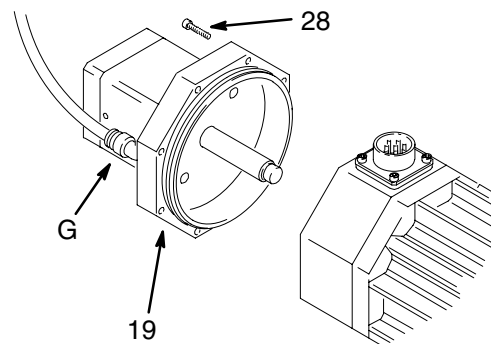
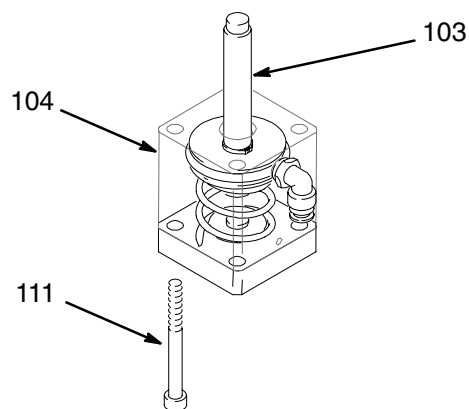
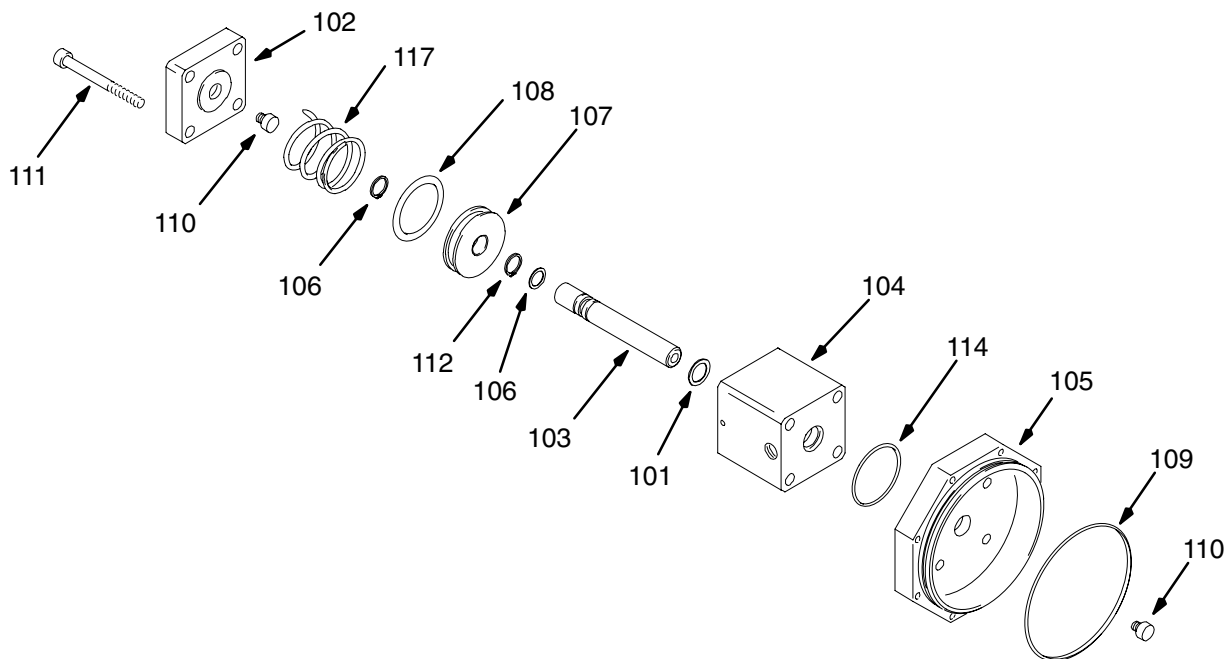

Fig. 4
Fig. 5
Fig. 6
3. Disconnect the fluid lines from the metering valve fluid inlet (A) and outlet (B).
4. Disconnect the closer air line from the closer air inlet (G). See Fig. 4.
6. Connect a compressed air supply to the closer air inlet (G). Actuate the cylinder with about 50 psi (3500 kPa, 3.5 bar) air pressure to retract the closer rod and keep the closer spring compressed.
7. Remove the eight screws (28) from the closer assembly (19), and remove the closer assembly. See Fig. 4.
9. Disconnect the air line from the closer air inlet (G).
10. Press down on the cylinder body cover to prevent the parts from springing apart, and remove the screws (111) from the closer cover. See Fig. 5.
11. Remove the cylinder cap (102) from the cylinder (104).
12. Remove the o-rings (109) from the cover (105).
13. Remove the spring (117) from the cylinder body (104). See Fig. 6.
14. Remove the rubber bumpers (110) from the cylinder cap (102) and valve rod (103).
16. Install the o-ring (108) in the cylinder body over the piston (107). Insert the piston and the spring (117) into the cylinder body (104).
17. Apply anaerobic sealant (Loctite® 242 or 243 or equivalent) to the threads of the four screws (111).
18. Compress the spring enough to engage the screw threads into the closer cover. Torque the four screws (111) to 24–30 in-lb (2.7–3.4 N•m).
19. Install the cover o-rings (109).
20. Install the rubber bumpers (110) on the end of the rod closer (103) and the cylinder cap (102).
21. Connect a compressed air supply to the closer air inlet (G). Actuate the cylinder to retract the closer rod and keep the closer spring compressed.
22. Secure the closer assembly to the metering valve with the eight screws (28). See Fig. 4.
24. Disconnect the air line from the closer air inlet (G).